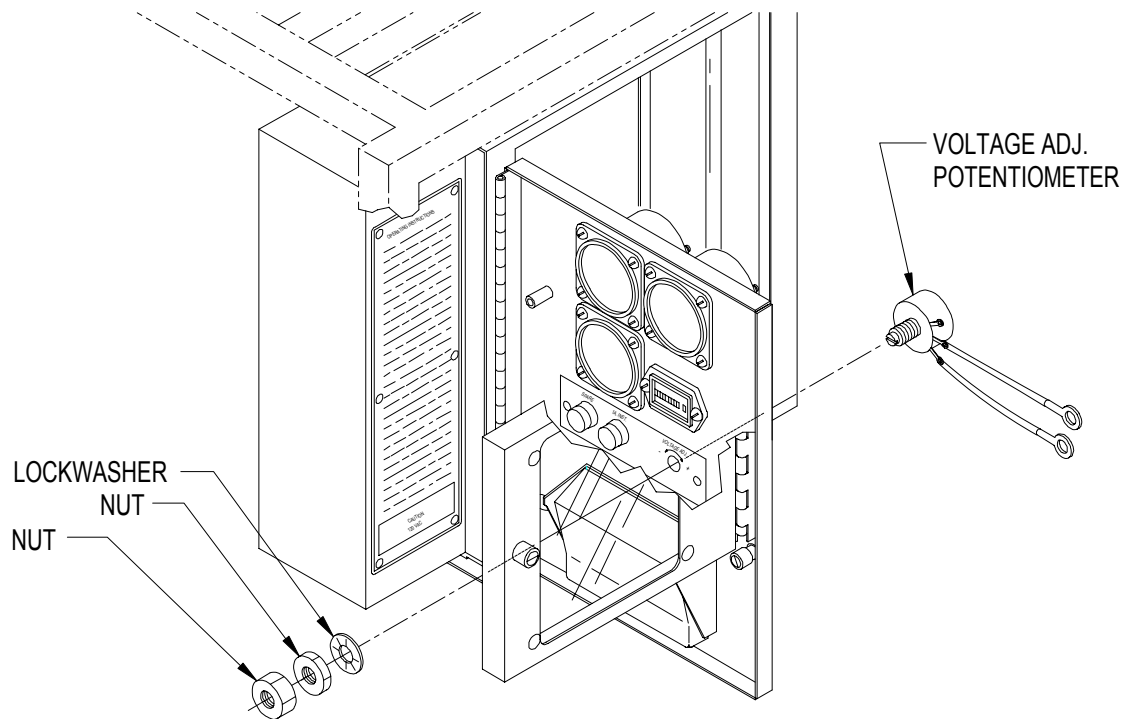

Figure 4-27. VOLTAGE ADJ. Potentiometer
- (1) Shut down generator set.
- (2) Release instrument panel by turning fastener, open instrument panel slowly.
- (3) Tag and disconnect electrical leads for VOLTAGE ADJ. potentiometer (Figure 4-27) from terminals of TB1.
- (4) Release instrument cover by turning fastener, open instrument cover.
- (5) Remove nuts, lockwasher and VOLTAGE ADJ. potentiometer from instrument panel.
- (1) Insert VOLTAGE ADJ. potentiometer (Figure 4-27) into instrument panel and secure with lockwasher and nuts.
- (2) Connect electrical leads to terminals of TB1 and remove tags.
- (3) Close and secure instrument panel and instrument cover.